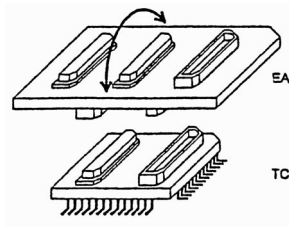

Figure 2-6-2. How to Insert/Remove EA and TC
(1) Insert EA, MA, CA, or SA in target connector (TC) so that the position of pin 1 (where the corner is cut) on each board matches.
- (b) Remove or insert the adapter in the correct direction. (Figure 2-6-2)
Use a bamboo spit or similar object as a tool to remove the connector. Insert the tool between TC and EA and remove TC in the correction direction as shown in Figure 2-6-2. If force is applied to the connector in the wrong direction, the connector will be damaged.